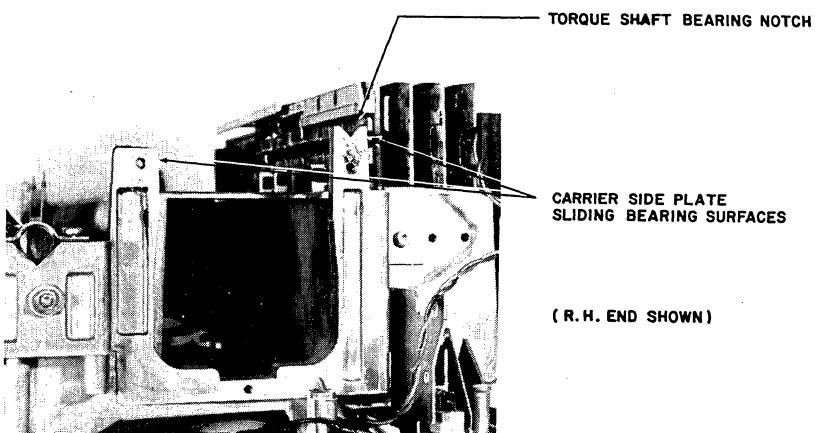

Figure 5-10 CARRIER SYSTEMS REPLACEMENT
- Clean all Carrier Subassembly bearing surfaces on the printer's main frame of old grease, etc. Reapply a light coating of multi-purpose grease to these points on both ends of the printer's main frame. Refer to Figure 5-10.